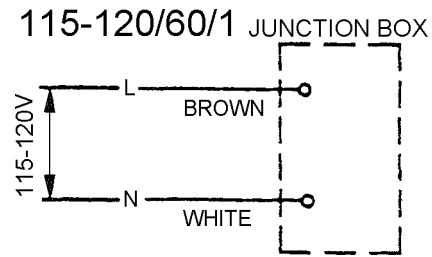

Fig. 3
- The white lead must be connected to the neutral conductor of the power source. Miswiring results in severe damage to the ice dispensing bin. See Fig. 3.